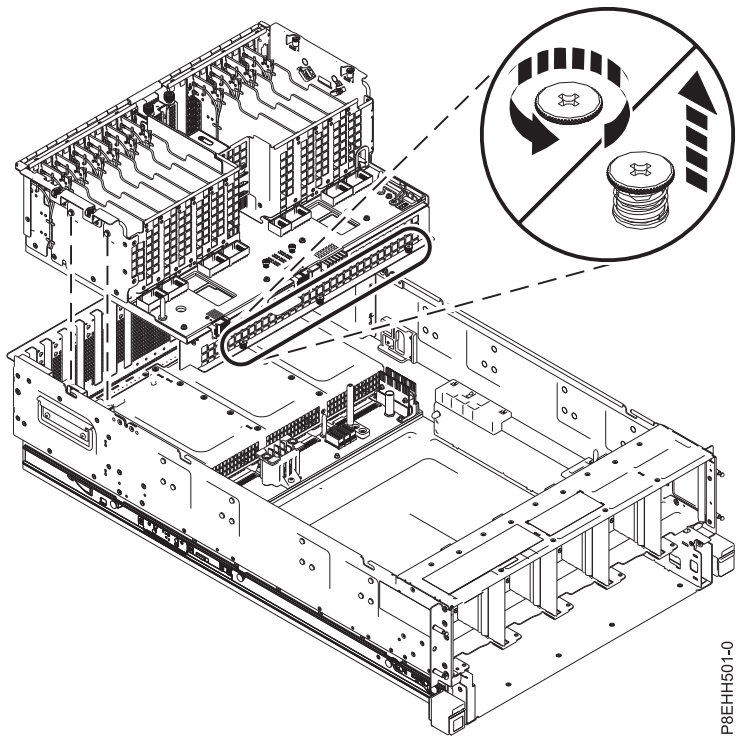

Figure 12. Removing the I/O backplane
- b. Unscrew the three captive screws in the front of the I/O backplane by using a #1 Phillips screwdriver. Grasp the sides of the I/O backplane and lift it out of the system, as shown in Figure 12.